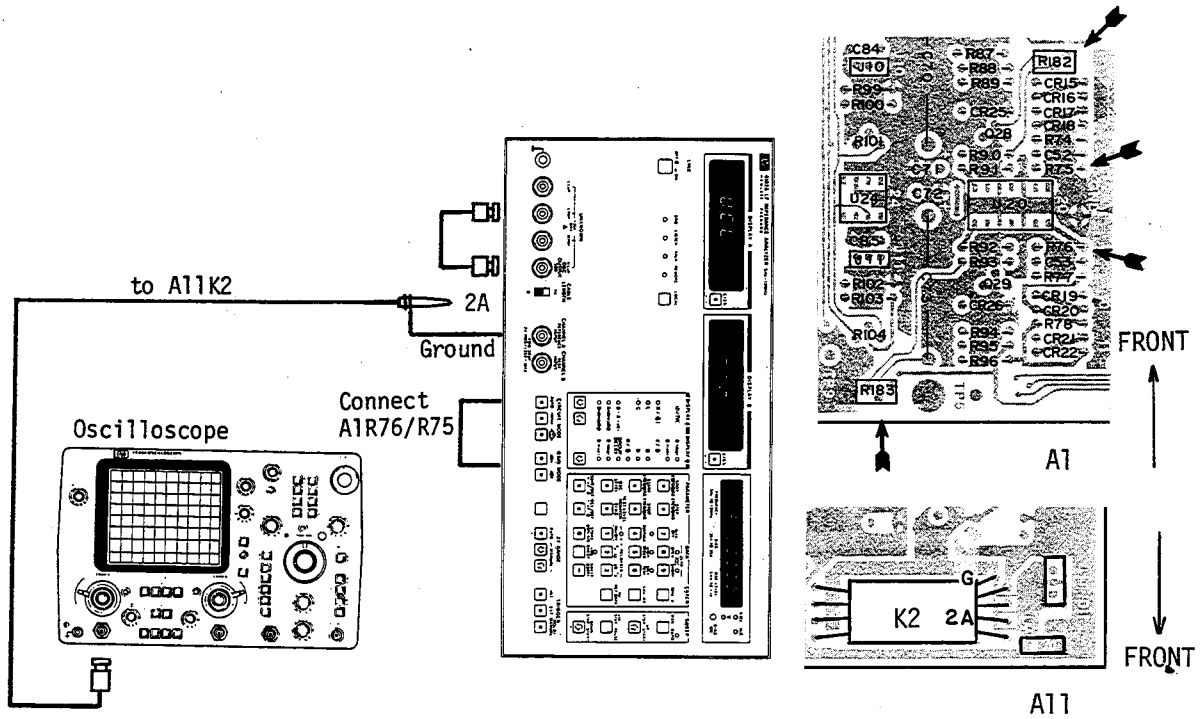

Fig. 5-14 A1 L_{CUR} Amplifier Output Level Adjustment Setup.
- b. Connect the L_{POT} terminal to the H_{CUR} terminal using the BNC-to-BNC cable, and connect the oscilloscope high input to pin 2A of A11K2 and low lead to the ground (G) pin as shown in Figure 5-14.